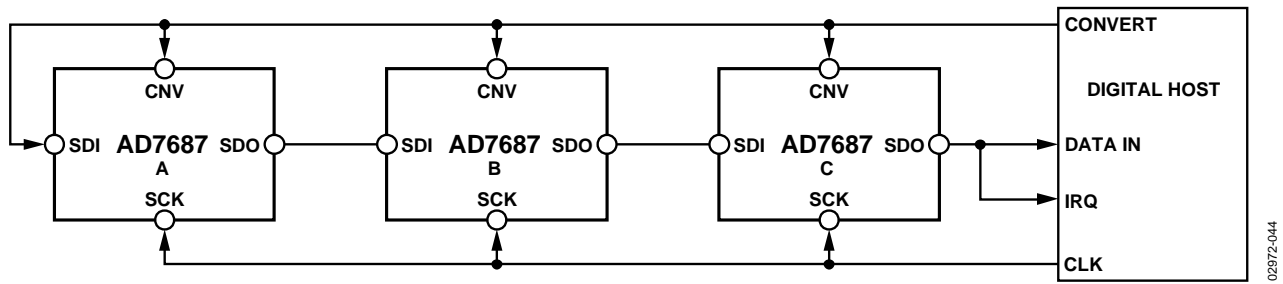
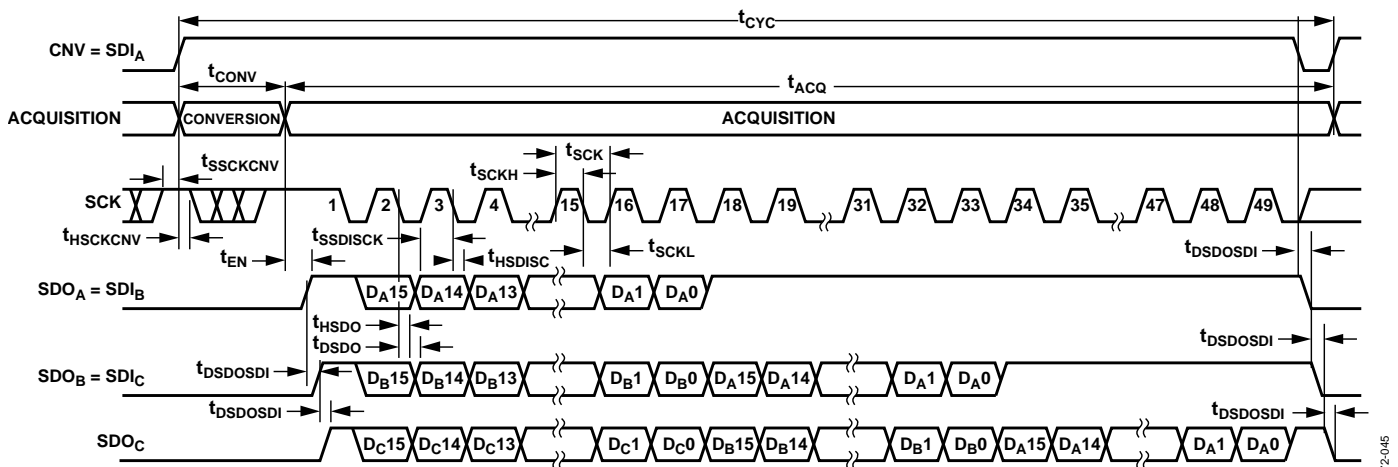

Figure 45. Chain Mode with BUSY Indicator Connection Diagram
Figure 46. Chain Mode with BUSY Indicator Serial Interface Timing
- In the chain mode, if SCK is high during the  $\overline{CNV}$  rising edge (Figure 46).
A connection diagram example using three AD7687s is shown in Figure 45 and the corresponding timing is given in Figure 46.
Figure 45) SDO is driven high. This transition on SDO can be used as a BUSY indicator to trigger the data readback controlled by the digital host. The AD7687 then enters the acquisition phase and powers down. The data bits stored in the internal shift register are then clocked out, MSB first, by subsequent SCK falling edges. For each ADC, SDI feeds the input of the internal shift register and is clocked by the SCK falling edge. Each ADC in the chain outputs its data MSB first, and  $16 \times N + 1$  clocks are required to readback the N ADCs. Although the rising edge can be used to capture the data, a digital host using the SCK falling edge allows a faster reading rate and consequently more AD7687s in the chain, provided the digital host has an acceptable hold time. For instance, with a 3 ns digital host setup time and 3 V interface, up to eight AD7687s running at a conversion rate of 220 kSPS can be daisy-chained to a single 3-wire port.